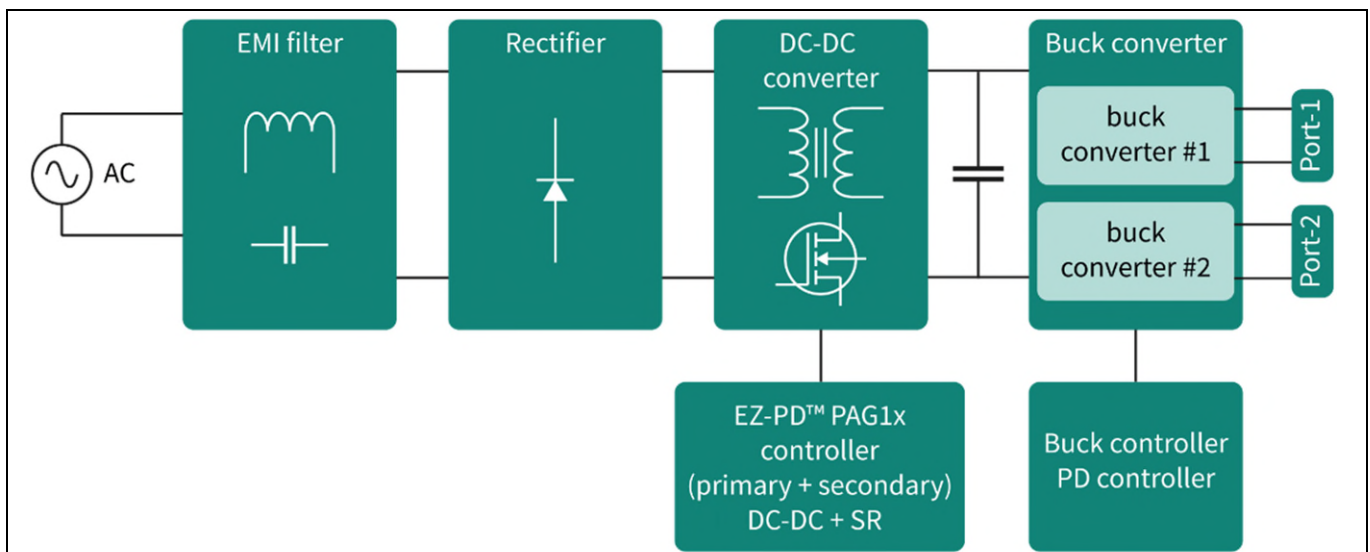

Figure 1 High-level block diagram of a dual-port adapter
As portable electronic devices such as smartphones, tablets, and laptops require faster charging, the Power Delivery (PD) technology is designed to provide the fastest charging possible through a USB Type-C (USB-C) cable. The USB PD Standard Power Range (SPR) standard defines the maximum power to deliver over a USB-C cable up to 100 W. This allows for providing multiple USB-C ports (Figure 1) on universal AC-DC adapters that can charge a wide range of devices such as smartphones, gaming laptops, power tools, and e-bikes.
Figure 1 shows a typical block diagram of a multi-port adapter. The front-end AC-DC converter produces the requested output voltage. On the other hand, the buck converter (connected at the output of the AC-DC converter) ensures that the defined USB-C PD specifications and performance are achieved for multi-port adapter applications. Figure 1 shows a high-level block diagram of the EZ-PD™ PAG1S-1P based 65 W dual-C adapter and charger solution.